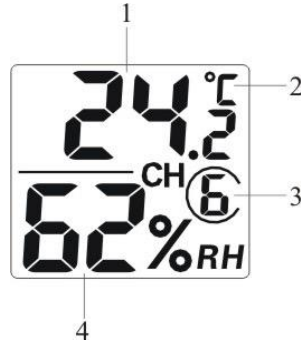

Figure 9
6. Verify the correct channel number (CH) and temperature units of measure (°F vs. °C) are on the display, as shown in Figure 9.